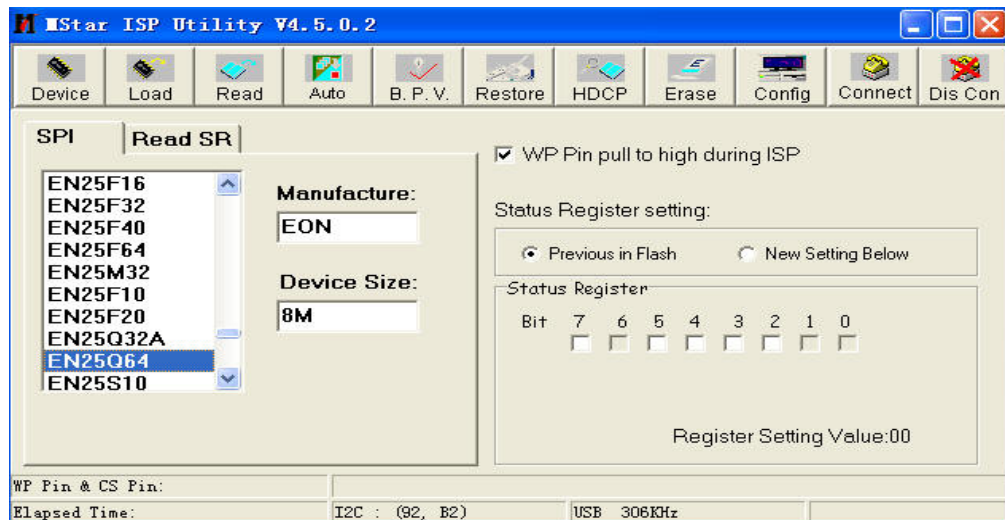

Fig. 2 Write-protect setup
- 2) Use on-line burning tool of **Mstar**, enter into menu **“Device”**, select item **“WP Pin pull to high during ISP”** as **Fig. 2**; for the normal erasing process, make sure hardware write-protect of **Flash** is canceled;